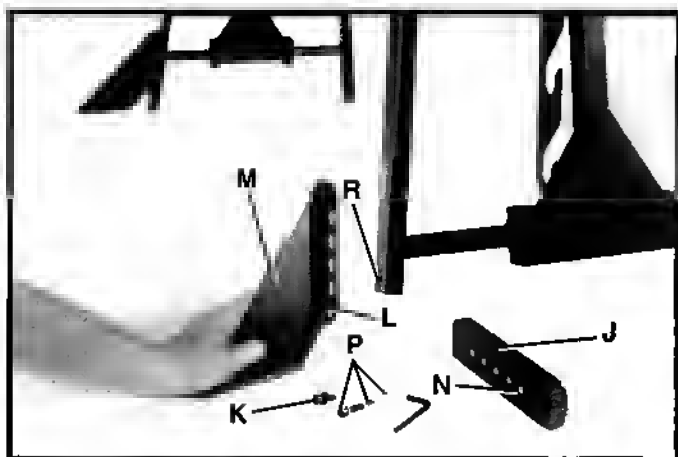

Fig. 13
5. Align bottom hole (L) Fig. 13, in stabilizer (M) with bottom hole (N) in leg extension (J) and fasten together using the supplied hex socket head screw (P), flat washer, lockwasher, and hex nut. Do not completely tighten hardware at this time.
7. Align desired hole in leg extension/stabilizer assembly with threaded hole (R) Fig. 13, in stand and secure leg extension/stabilizer assembly to stand using screw (K) which was removed in STEP 5. Do not completely tighten screw at this time.